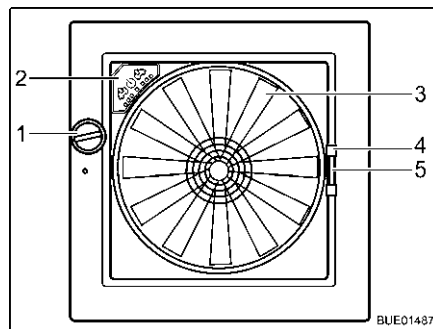

Fig. 94 Skylight Omni-Vent
- Turn the knob (Fig. 94,1) until the desired opening angle is reached.
- Turn the knob (Fig. 94,1) until the skylight is fully closed.
- Using the handle (Fig. 94,4) pull the insect screen across to the other side of the frame.
- Press together the handle (Fig. 94,5) of the shade.
Fan If the skylight is open, the interior can be ventilated with the 6-speed fan (Fig. 94,3). The fan is operated via the operating panel (Fig. 94,2).